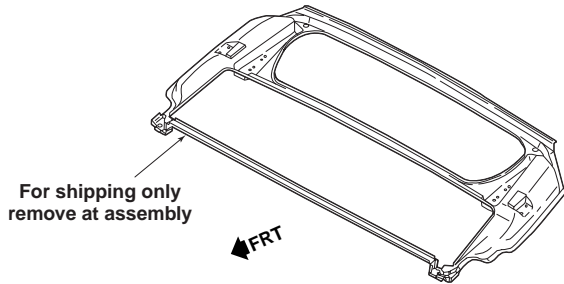

**Fig. 3.59 — Install Sectioned Panel to Backing Plates Created From Undamaged SMC**
- 8 Remove service part and apply adhesive to the extended portion of the mating flange created from the backing strips, and to the frame rails, and rear bumper impact bar as necessary (Fig. 3.59).